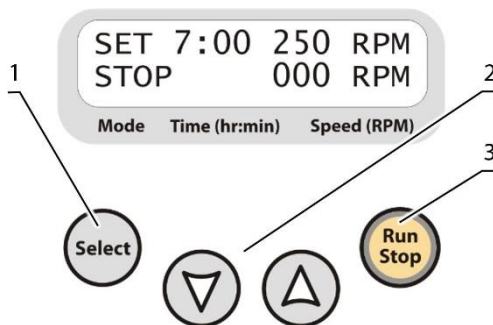

Figure 1. Control panel of CPS-20
- 5.3. **Setting the parameters.** Press the **Select** key (fig. 1/1) to choose the parameter to change. Each pressing of the **Select** key consecutively activates the parameters. The active parameter is flashing. Use the ▼ and ▲ keys (fig. 1/2) to set the necessary value. Pressing the key for more than 2 s increases the speed of value change.
- 5.4. Press the **Run Stop** key (fig. 1/3). The platform starts rotation, indication RUN appears on display and the timer in the lower line of the display starts counting the time interval.